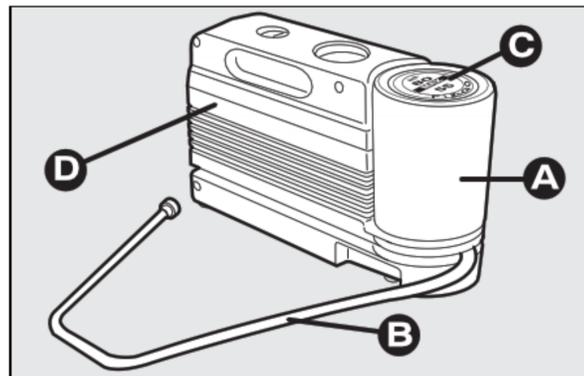

fig. 10
- compressor **D-fig. 10** including gauge and connections;